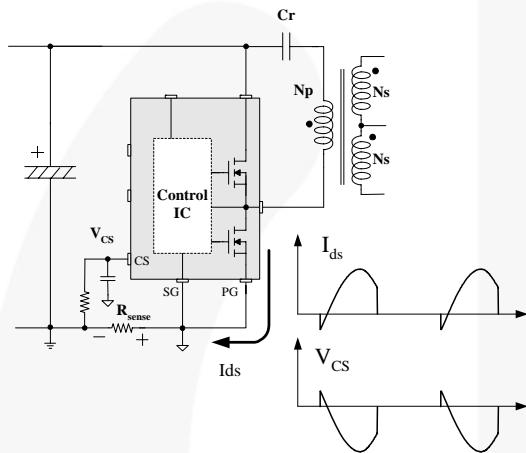
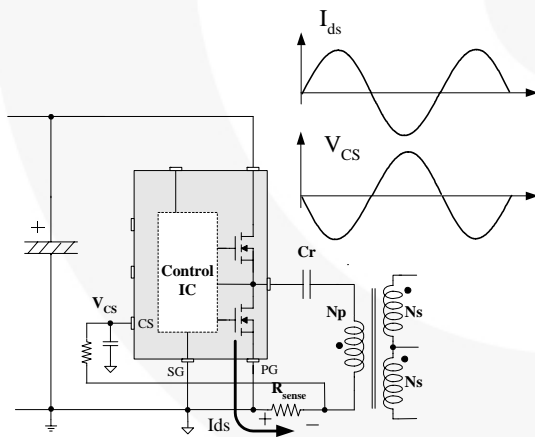

Figure 23. Half-Wave Sensing
Figure 24. Full-Wave Sensing
**6. Current Sensing Using Resistor:** FSFR-US series senses drain current as a negative voltage, as shown in Figure 23 and Figure 24. Half-wave sensing allows low power dissipation in the sensing resistor, while full-wave sensing has less switching noise in the sensing signal.